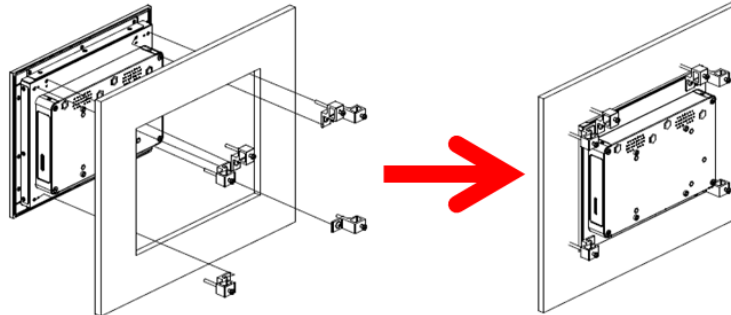

Figure 2-6: Screwing the Panel PC firmly to the panel frame.
- Step 4** As Figure 2-6 below illustrates, use the panel mount kits to secure the panel PC in the panel frame. Insert the screws through the hook brackets into the corresponding holes on the back chassis of the panel PC. Tighten the screws to fix the panel PC firmly into the panel frame.